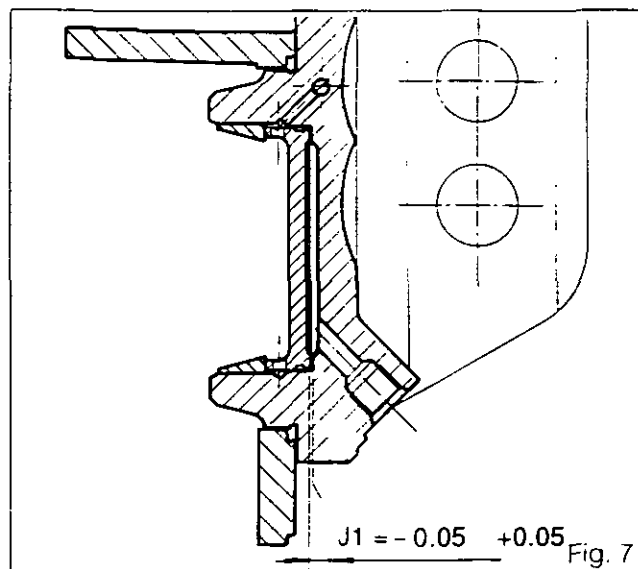

Fig. 7
37. Carry out shimming (Fig. 7) to obtain: